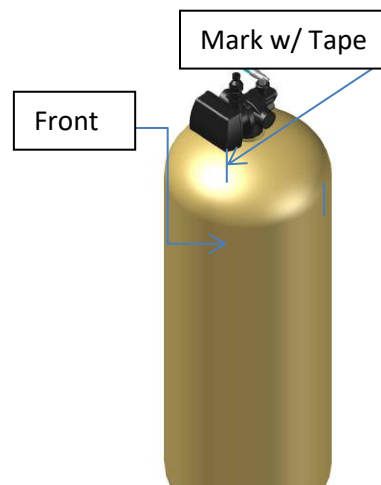

Figure 7: Correctly Set Up DCS6 System
- 4. Mark the “front” of the resin tank (shown in Figure 7) with either a marker or tape. The front of the resin tank is determined by the location of the face of the control valve once it has been secured to the face of the control valve. Make sure that the system is positioned in a way that the plumbing can be installed.